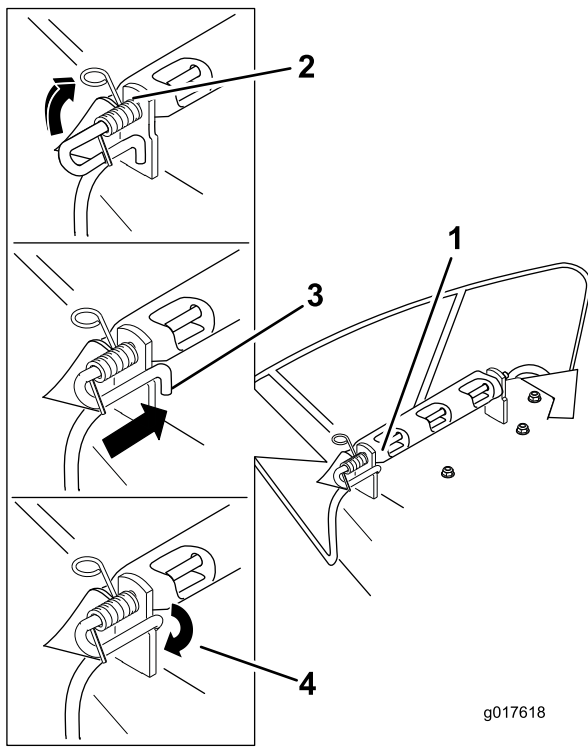

Figure 58
4. Lift the loop end of the spring and place it into the notch on the deflector bracket (Figure 58).
5. Secure the rod and spring assembly by twisting it so the short end of the rod can be placed behind the front bracket welded to the deck (Figure 58).